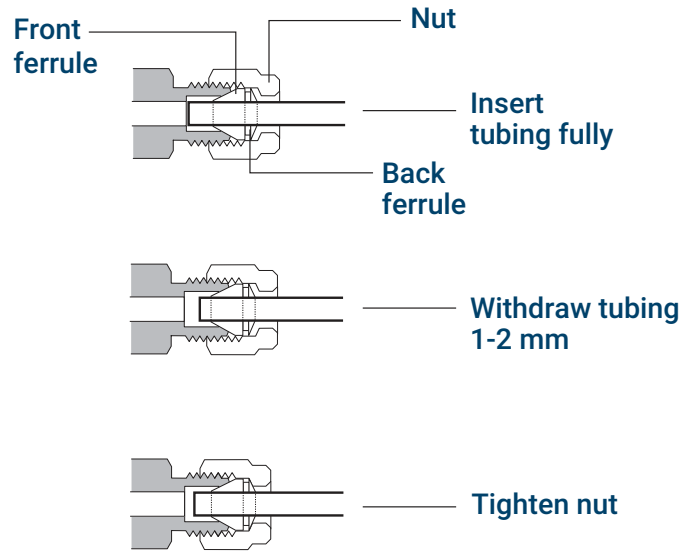

Figure 17. Insert the tubing
4. Push the tube fully into the plug, then withdraw it approximately 1 to 2 mm. See **Figure 17**.